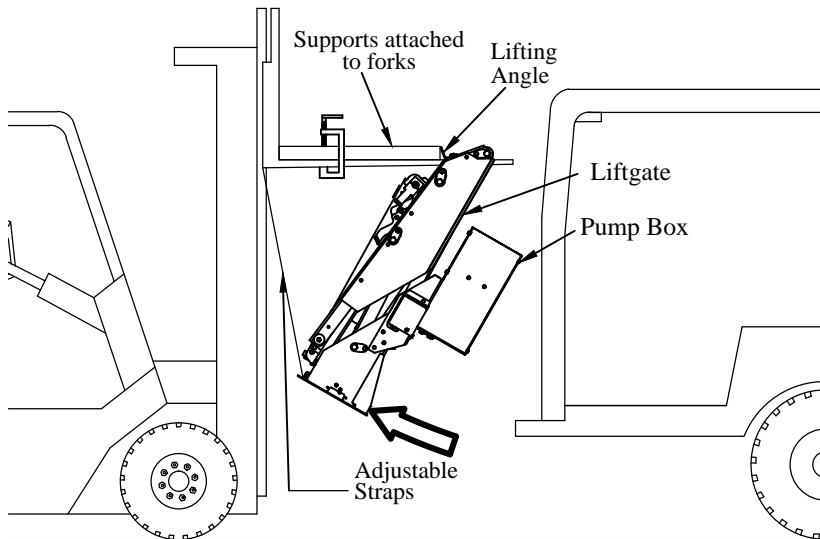

Figure 12: Clamp 24" long supports to the forks. Apply tension to strap to tilt the liftgate.
1. **Clamp** 24" long supports to the fork truck forks to keep the liftgate from sliding (Figure 12).
2. **Lift** the liftgate by the lifting angle with a fork truck (Figure 12).
3. **Attach** adjustable strap to the base of the liftgate and the mast on the fork truck (Figure 12).
4. **Apply** tension to the adjustable strap to tilt the liftgate (Figure 12).